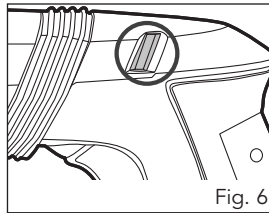

Fig. 6
4. Hold the rotary hammer drill to the work surface. Apply enough pressure on the rear handle so that the press control indicator on the side of the housing goes green (Fig. 6). The rotary hammer drill will work most efficiently in this position. If you apply excessive pressure, the indicator will go red. This guide prevents overloading of the tool.